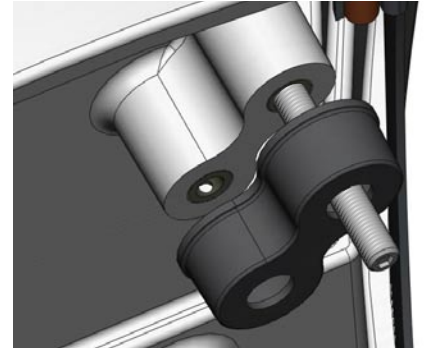

Figure 3
3. Install the Seals onto the pedestal (Figure 3).